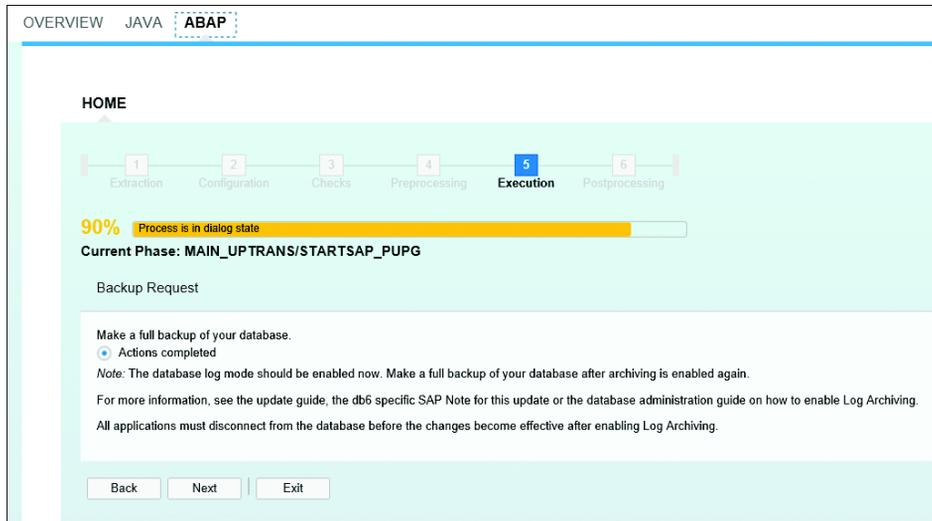

Figure 80 Take a Backup and Continue
19. After the completion of the execution phase, SUM requests a full backup of the database. Take the backup and select NEXT (see Figure 80).